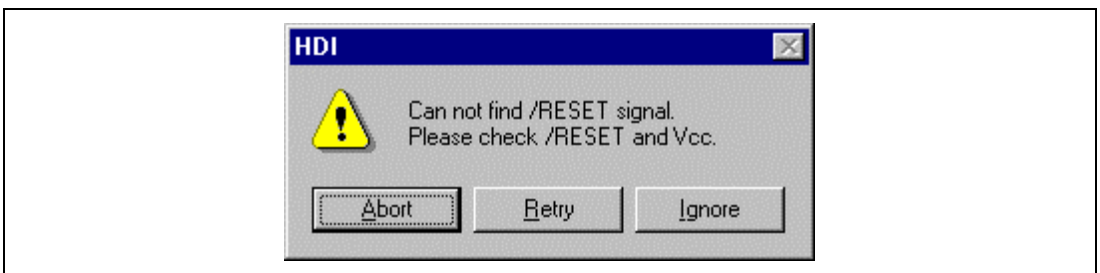

Figure 2.13 [Can not find /RESET signal] Dialog Box
3. If the emulator is not initiated, the following dialog boxes shown in figures 2.13 through 2.17 will be displayed.